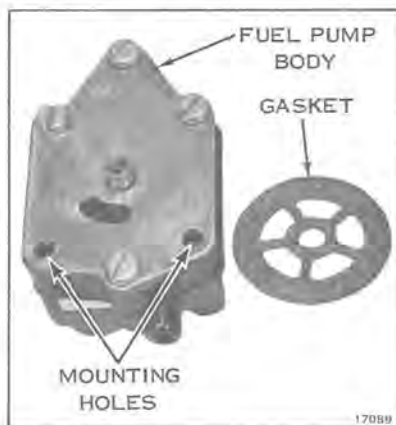
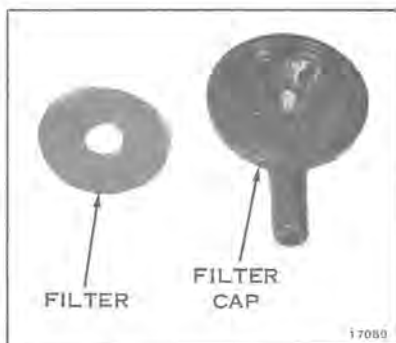

Figure 6-8
Figure 6-9
- a. Disconnect two hoses from fuel pump and filter assembly (see Figure 6-8).
- b. Remove two screws attaching pump and filter assembly to mounting plate (see Figure 6-8), and remove pump and filter assembly. NOTE: Filter assembly may be removed for cleaning and inspection without removing pump assembly by removing filter cap screw (see Figure 6-9).
- b. Inspect the filter for accumulation of sediment by removing the filter cap screw and the filter cap (see Figures 6-8 and 6-9). Clean the filter cover and fuel connectors in solvent and blow dry.